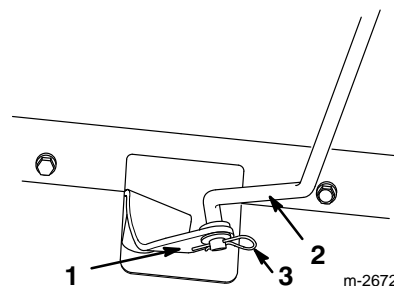
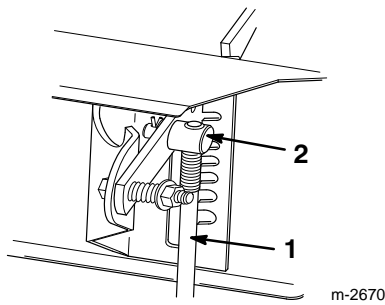

Figure 6
Figure 7
1. Pull the speed selector arm (Fig. 6) to the most outward position.
3. Rotate the speed selector rod in the trunnion (Fig. 7) until the bottom end of the rod can slip into the hole in the speed selector arm (Fig. 6).
4. Install the speed selector rod into the selector arm, add one flat washer on the rod and secure it with a cotter pin (Fig. 6).